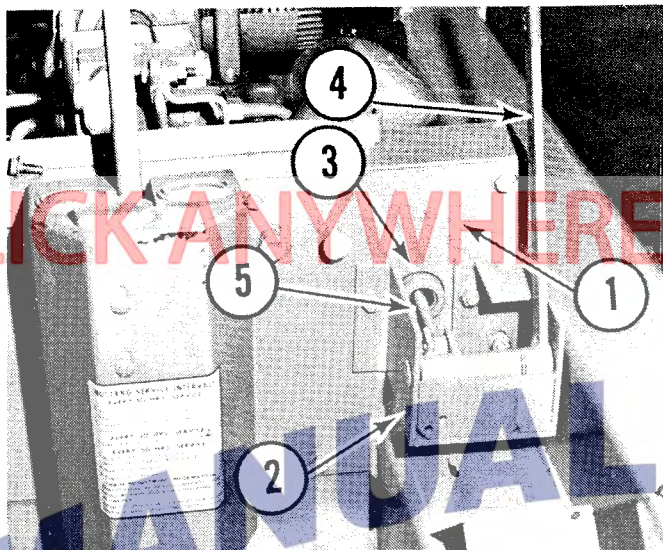
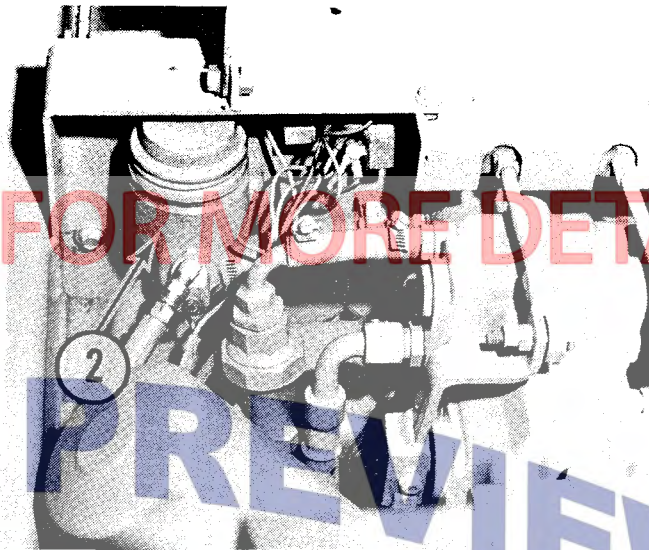

FIGURE 92
FIGURE 93
2. Remove left vertical panel and install new panel (1 FIGURE 92), control box (2 FIGURE 92) and master cylinder (3 FIGURE 92) and (2 FIGURE 93).
3. Install the handle assembly, (4 FIGURE 92) with the push rod (5 FIGURE 92) into the master cylinder and the 3/8" - 24 locknut against the master cylinder piston.